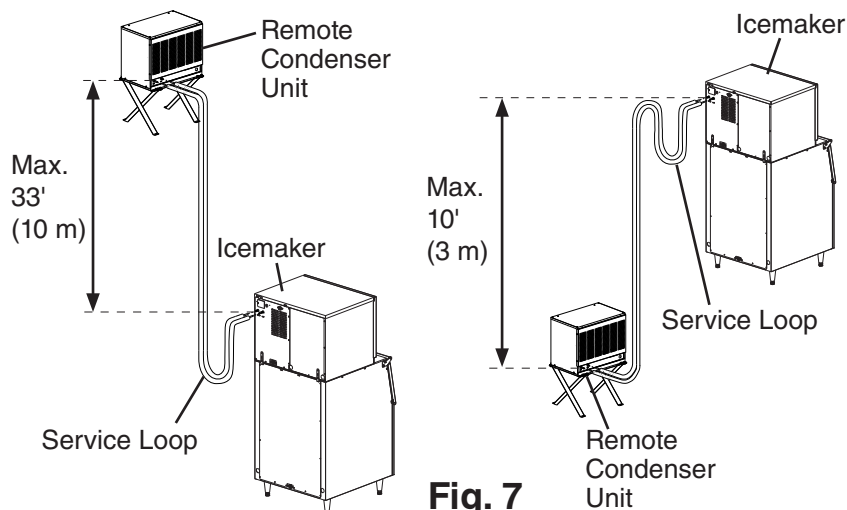

Fig. 7
- The maximum vertical distance between the remote condenser unit and the icemaker is 33' (10 m) above or 10' (3 m) below the icemaker. These distances are measured fitting to fitting. See Fig. 7.
- 1) Route the factory line set or appropriate size copper tubing. When field fabricating, insulate the copper tubes separately. Leave a service loop behind the icemaker to allow the icemaker to be pulled out for service. See Fig. 7.